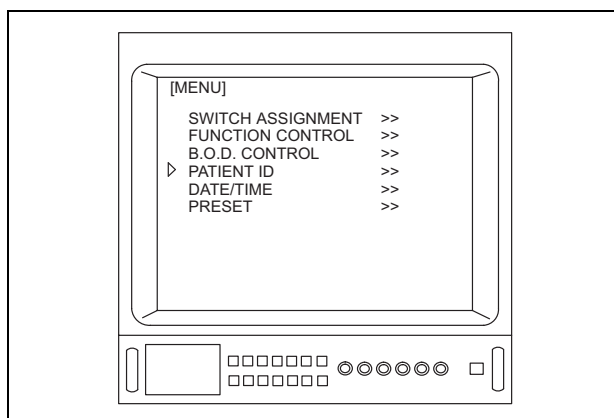

Figure 5.42
2. Depress the menu switches “” or “”, or the “” key on the keyboard to move the arrow “” to “PATIENT ID” (see Figure 5.42).
- When using a type A OTV-S7V, “B.O.D. CONTROL” (see Figure 5.42) is not displayed.
- When the OTV-S7H-1D-F08E/L08E/D-L08E is connected to the OTV-S7V, “SWITCH ASSIGNMENT” (see Figure 5.42) is not displayed.